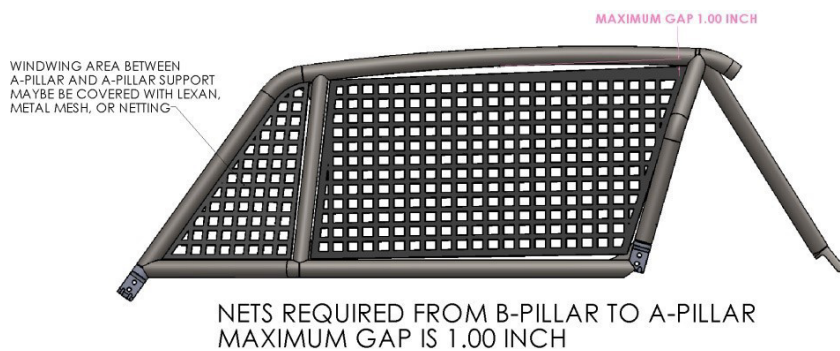

Figure 4 NETS
- The window net must fill the entire window opening including wind wing area of the race vehicle to allow no more than 1 inch gap. See diagram on FIG 4